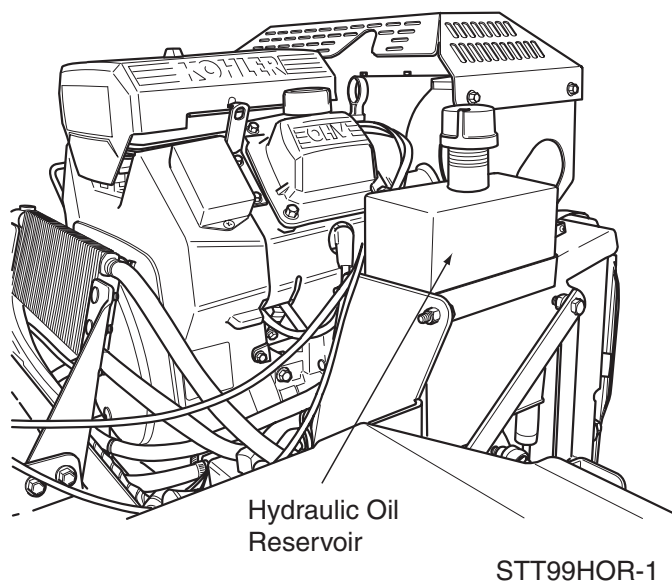

Figure 7-2 Hydraulic Oil Reservoir
2. Place a suitable container under the hydraulic oil reservoir. Remove the fill cap from the reservoir. Remove the drain plug from the bottom of the reservoir. (See Figure 7-2). Allow the fluid to drain into the container and properly discard it.